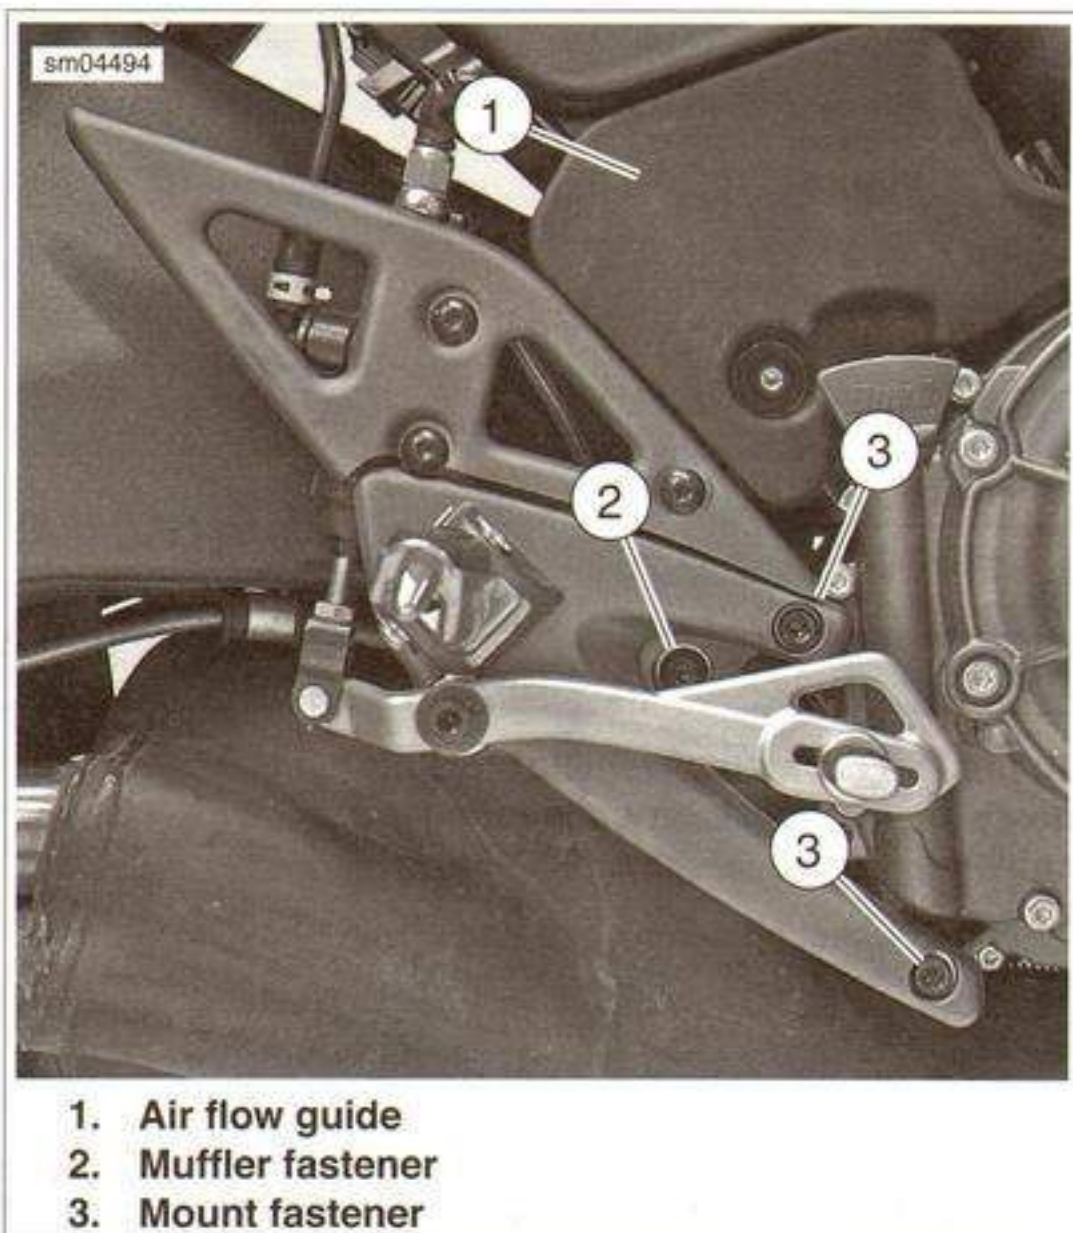

Figure 2-110. Rider Footpeg Mount
9. See Figure 2-110. Remove the two fasteners securing the rider peg mount and master cylinder.